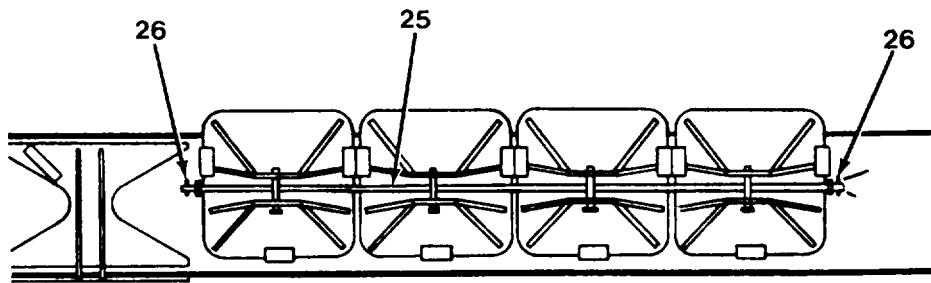

Figure 5-33 *Secure Pads on Boom*
- d. Stow pads in hanger brackets on right side of boom toward tip. Secure with rod (25) and two cotter pins (26, Figure 5-33) located on boom.
- a. Remove two cotter pins (26) and rod (25) that stow pads on right side of boom (Figure 5-33). Remove pads for installation and reinstall rod (25) and pins (26) on side of boom.